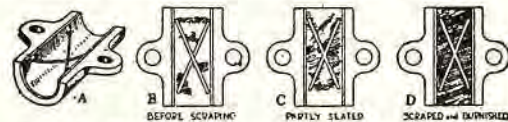

Fig. 11. Showing appearance of markings as the scraping proceeds.
This marking, or "spotting-in" and scraping process is repeated from time to time till the whole surface is marked, as shown in (D) (Fig. 11). In practice, it is not possible to get every white mark off the bearing; therefore continue the scraping and spotting-in until at least three-fourths of the total surface is blue, and the rest will wear in.
If the timing gears are too tight, owing to the top of the teeth coming in contact with the bottom of the spaces in which they mesh, it may be possible to effect a remedy by turning off metal from the outside diameter of the gear. If the teeth bind on the pitch line (near center of tooth; see Fig. 11, page 869), the gears may be lapped in, but caution must be used to keep abrasive from bearings. One method is to cut cardboard or thin metal to fit behind gears.